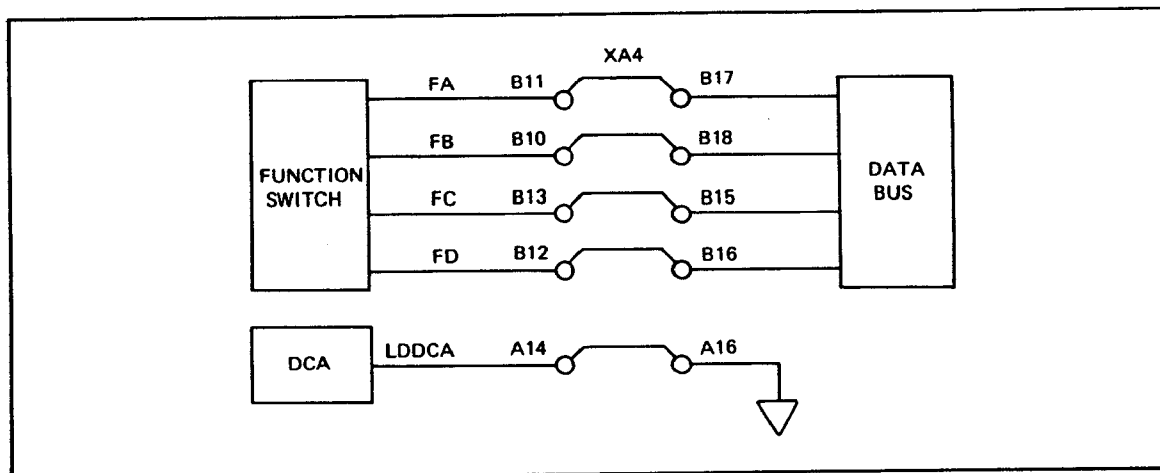

Figure 8-A-5. Test Card 2, Test 5 Setup
**SETUP:** Set up equipment for this test as shown in Figure 8-A-5.